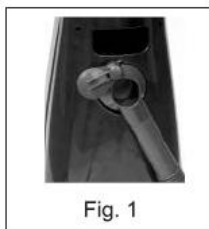
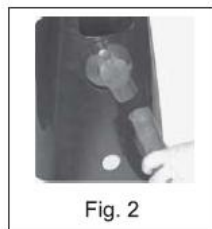

Fig. 1
Fig. 2
2. Attach the new dust bag onto the bag holder (Fig. 2). To ensure proper cleaning and extended motor life, make sure the secondary bag support is always in place.
3. Remove secondary filter and replace with a new filter (Fig. 2).
2. Remove the agitator holder (Fig. 1). Take out the agitator assembly and remove belt guard from the agitator pulley and the motor drive shaft (Fig. 2 & 3).
1. Pull out and turn the lid of the hose attachment opening. Remove the clog or blockage (Fig. 1).
2. If the above step is not enough, remove hose cuff from the nozzle inlet (Fig. 2). Turn the unit over and unscrew and remove the bottom plate (see "How To Remove Bottom Plate."). Check nozzle inlet tube for obstructions. Clear tube and reinstall the bottom plate.